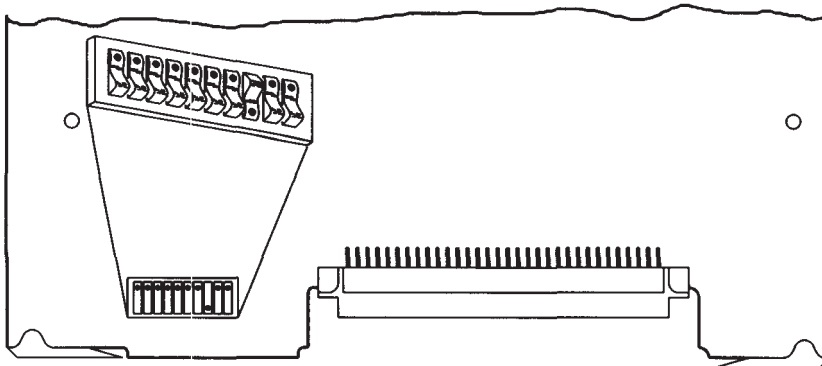

Figure 3-9.
7. If your system contains 16 Mbytes in any combination, set the address switches on the new board according to Figure 3-9 and then skip down to step 10: